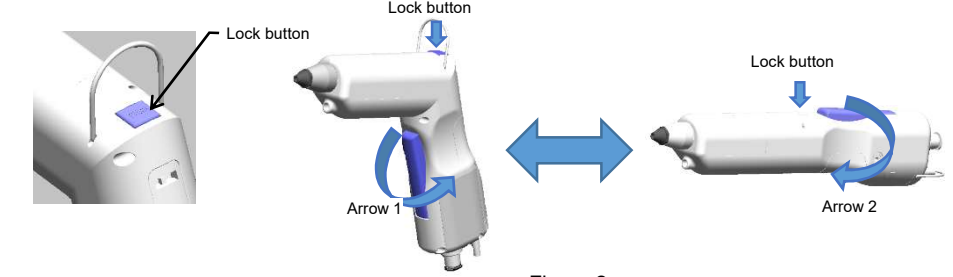

Figure 2
- ① Press the lock button on the main unit to change to gun shape or straight.
- When gun-shaped, while pressing on the lock button, rotate the grip side 180 degrees in the direction of arrow 1 to switch to the straight shape, as shown in figure 2. When straight, while pressing on the lock button, rotate the grip side 180 degrees in the direction of arrow 2 to switch to the gun shape.